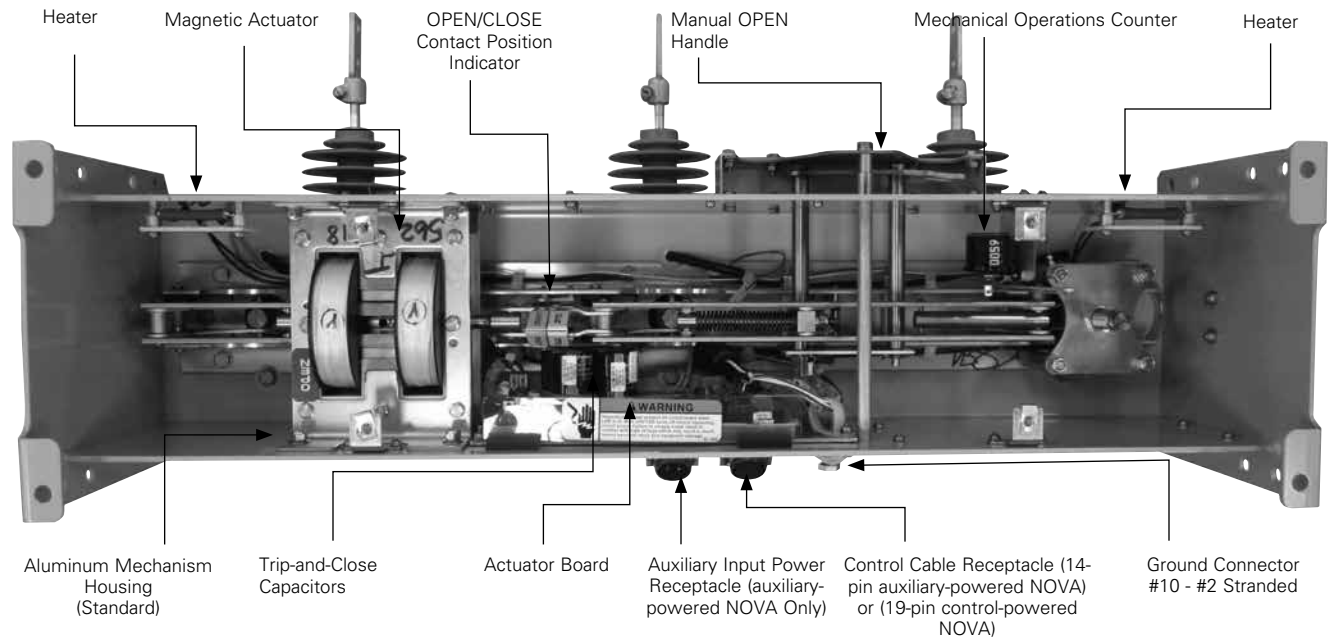

Figure 3. Type NOVA recloser mechanism (view from bottom of recloser with bottom cover and actuator board safety shield removed).
- Refer to Figure 3 for ground connector location. The ground clamp accepts #10 to #2 stranded cables.